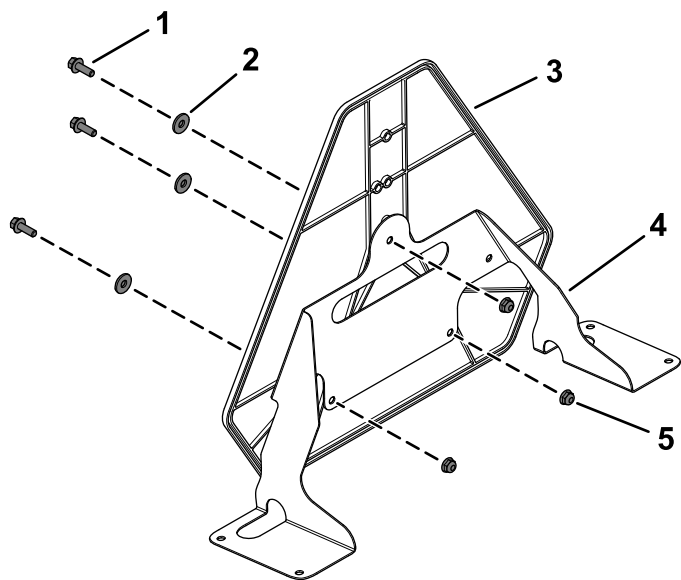

Figure 22
8. Secure the slow-moving vehicle sign to the marker mount using 3 flange-head bolts (1/4 x 3/4 inch), 3 flat washers, and 3 locknuts (1/4 inch) as shown in Figure 22.